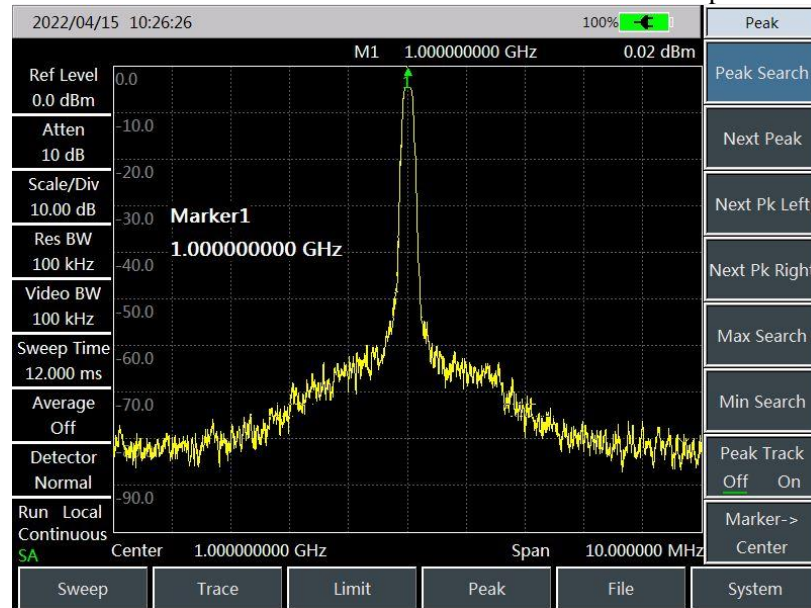

Figure 5-25 Point Frequency Source Output Signal
- e) Press **【Measure】** →[Page Down 1/2]→[Signal Generation]→[Manual Power -18dBm] to set the power of the desired output signal power according to the needs of users. The signal with output frequency of 1GHz and output power of 0dBm is shown in Figure 5-25 below: